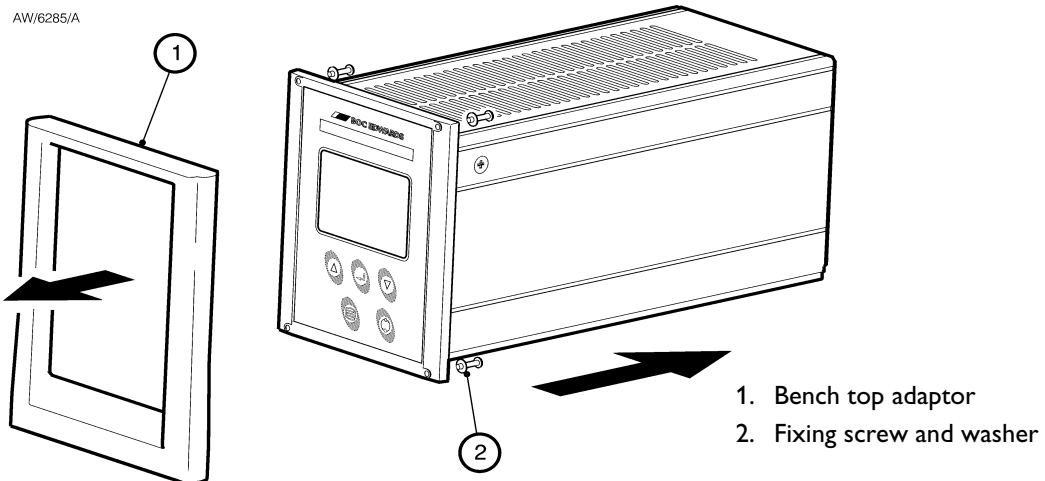

Figure 6 - Front panel removal
If a Controller is fitted in a rack, cabinet or panel, follow the directions given in Figures 6, 7 and 8.
- Remove the bench top adaptor (Figure 6, item 1) by removing the four screws (Figure 6, item 2).